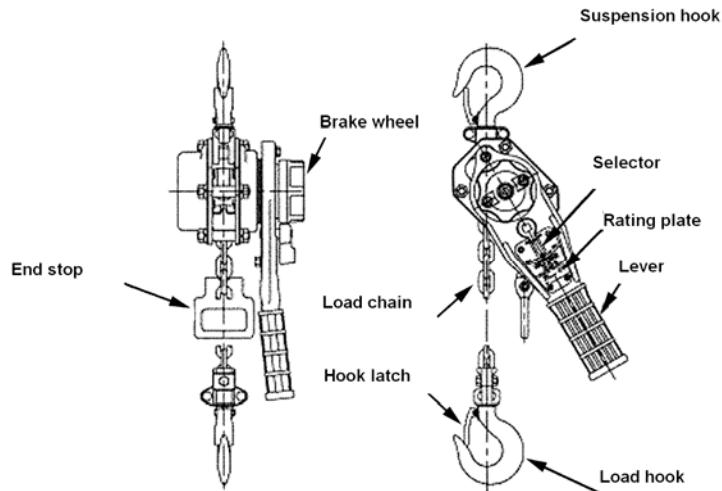

Fig 1 Lever hoist component parts
**Function** (See Figs. 1 and 2)
**Pulling through the unloaded chain** (See Figs. 1 and 2)